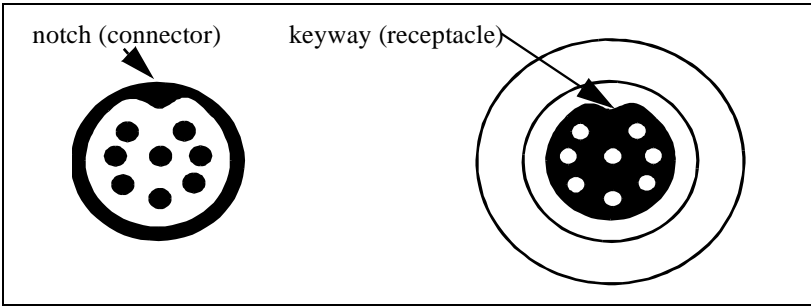

Figure 10.2: Probe connector and probe receptacle
**To prevent wrong connection of probe and instrument or damage to the pins of the probe connector, do not try to plug in the probe connector unless keyway and notch are properly aligned (see figure 10.2)!**